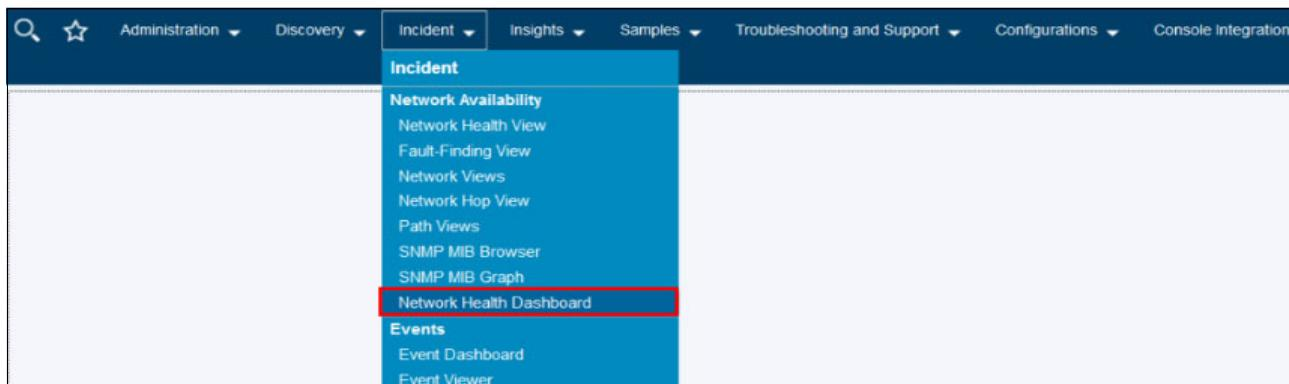

Figure 2-16 Accessing the Network Health Dashboard.
2. To access the Network Health Dashboard, browse to **Incident → Network Health Dashboard**, as shown in Figure 2-16.